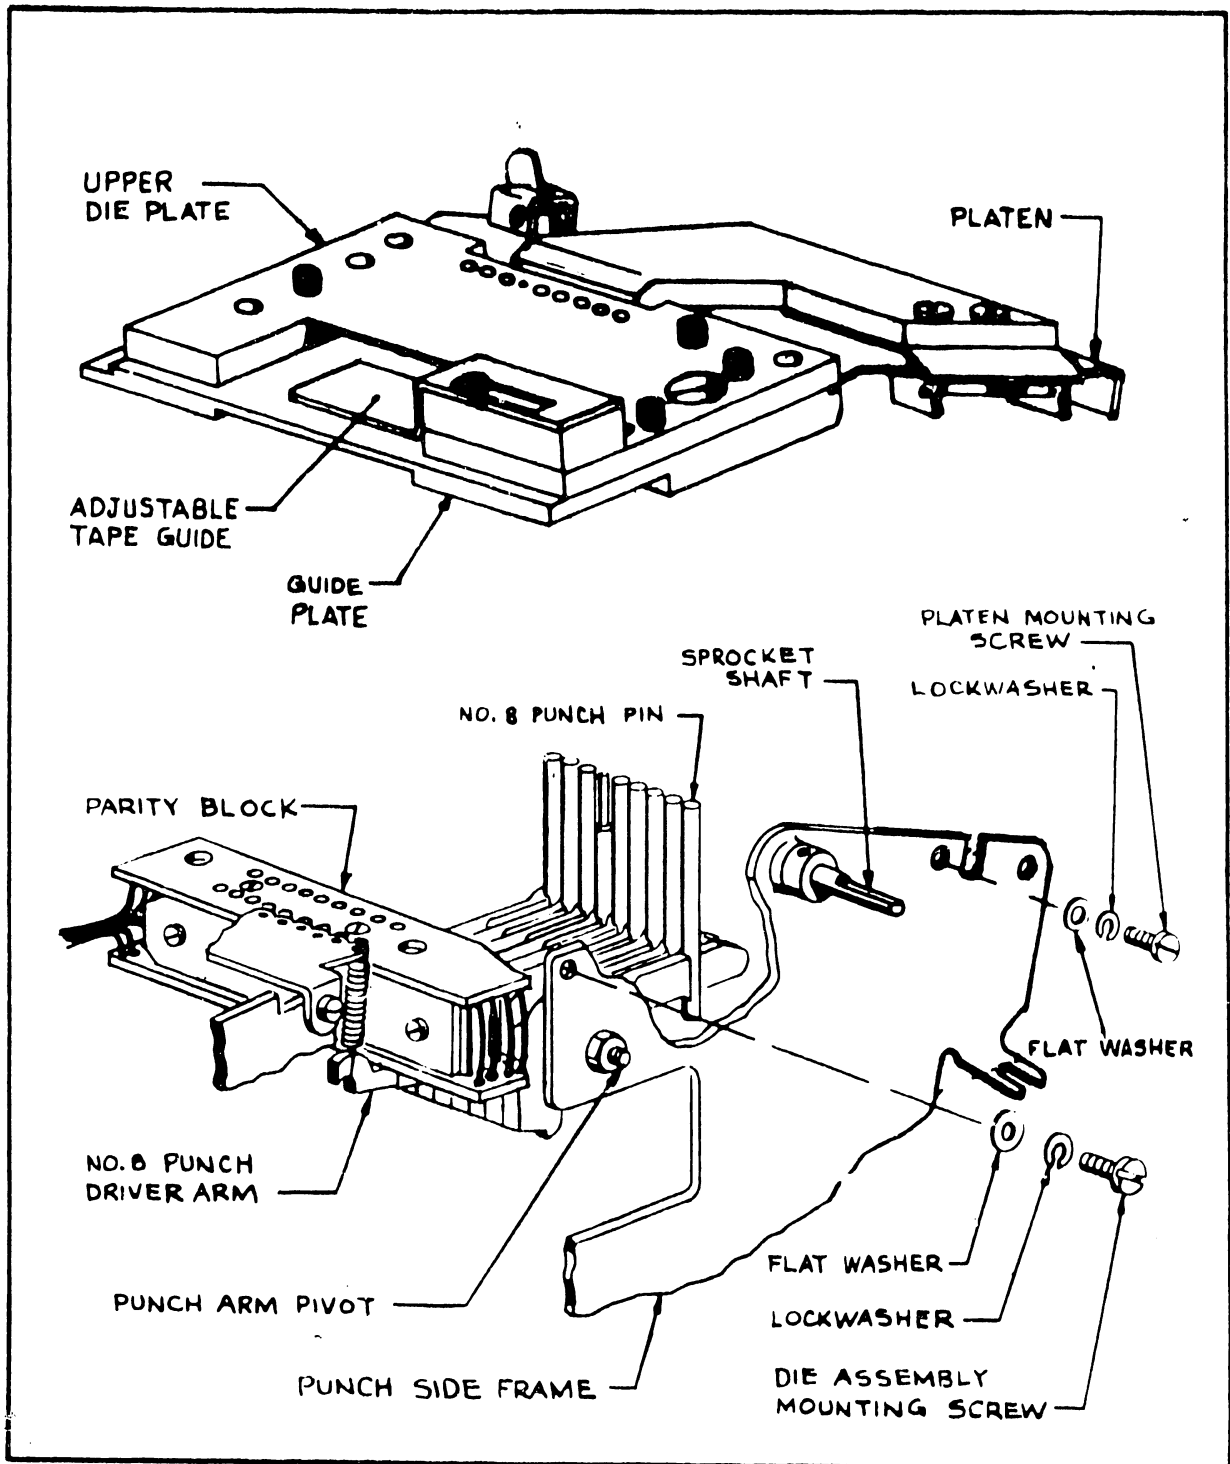

Figure 3.7 Punch and Die Assembly
2. Remove the two die assembly mounting screws with flat and lock-washers from each punch side plate; see Figure 3.7. Hold the punch mechanism tilted sideways to prevent losing the #8 punch pin which is not held in place because it has no adjacent arm and which, therefore, could fall out of the die as soon as the assembly is moved. Carefully pull the die assembly in the direction toward the solenoids to clear the platen and then raise the assembly to clear punch pins #1 through #7. These punch pins remain attached to their arms.